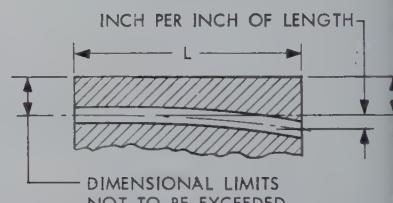

FIG. 18
**Runout — Twist Drilled Holes:** The runout or eccentricity permitted for drilled holes shall be .003 per inch of length starting with a minimum of .003 up to a maximum of .015. See Fig. 18.